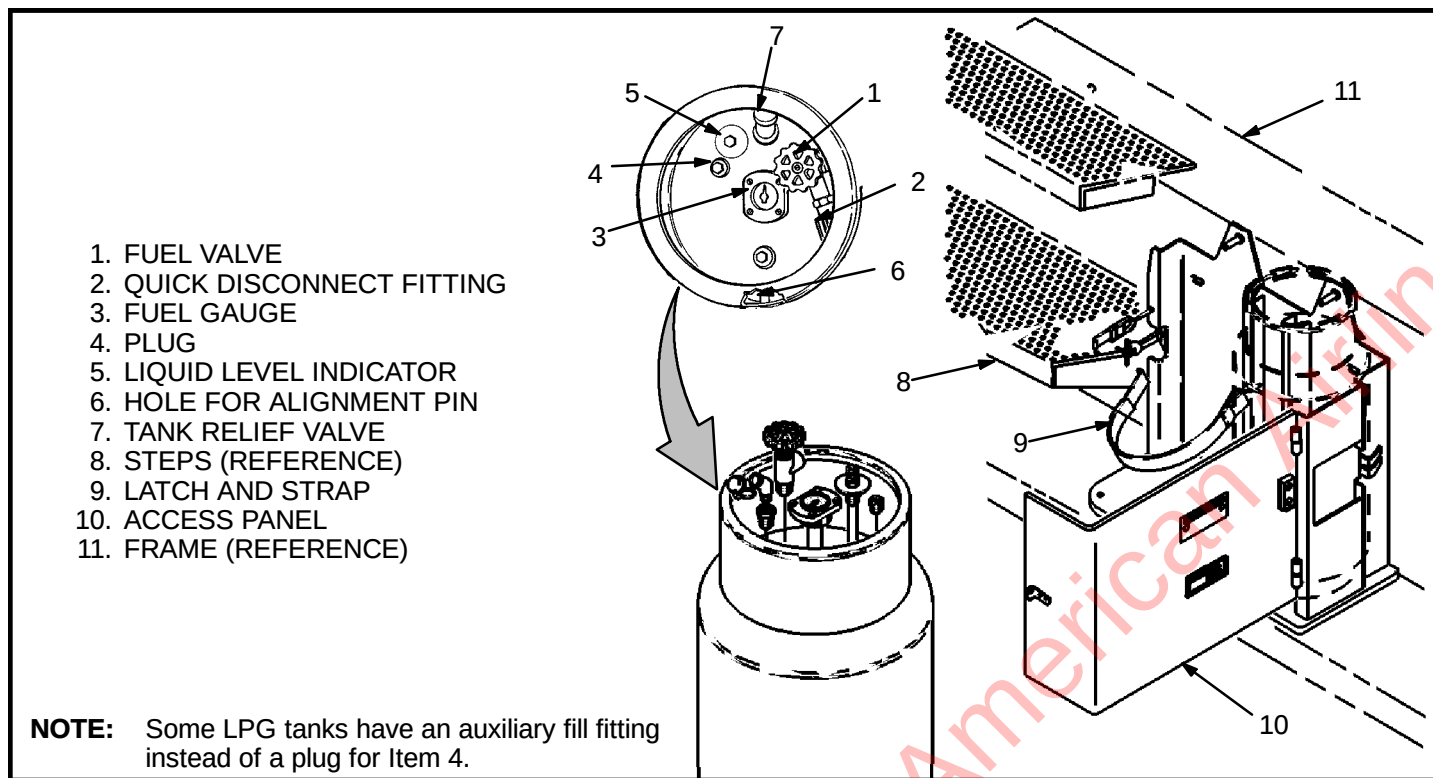

FIGURE 23. LPG TANK
- c. See FIGURE 23. Turn the fuel valve clockwise until the fuel valve is completely closed.
Make sure the alignment pin extends through the correct hole in the rim of the LPG tank. See FIGURE 23. The hose or the fittings can be damaged if the LPG tank is not installed in the correct position. A damaged hose or fitting can release LPG fuel and cause an explosion and fire hazard.
- b. Install the LPG tank in its bracket so that the alignment pin is in the correct hole as shown in FIGURE 23. Close the latch on the tank bracket.
- a. Check the LPG tank to make sure it needs filling. During the fill operation, the LPG tank must be in a position so that the liquid level indicator will always be in the vapor space above the liquid level. See FIGURE 23.